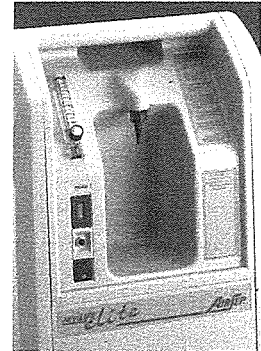

Figure 5
1. If your physician did not prescribe a humidifier, connect the oxygen tubing directly to the unit's oxygen outlet. A separate outlet fitting is supplied for this type of connection (**Figure 5**).